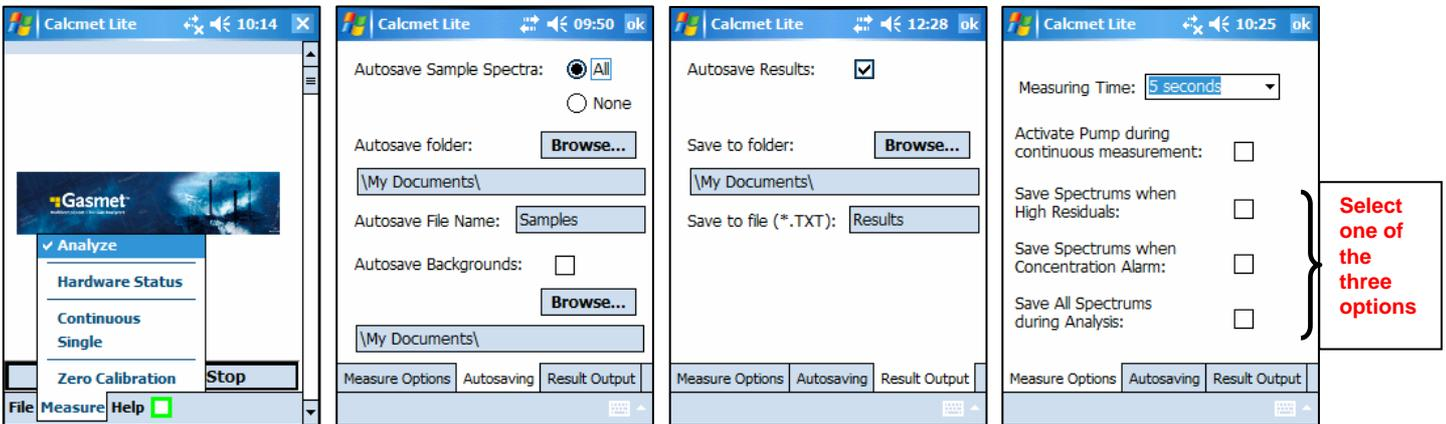

Figure 18. Saving spectrum files and results.
- Store the sample spectra AND the measurement results (Figure 18). This can be done by selecting Measure → Analyze. Then, select Autosave Sample Spectra option and Autosave Results option and select one of the three following options in File → Settings → Measure Options: